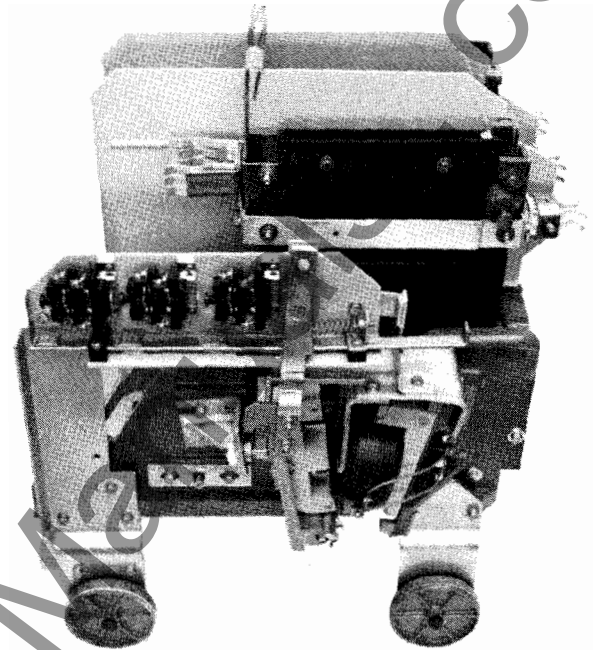

Fig. 5. IC2814E250 with interlock mounted
The IC2814E250, E251, E551 and E451 contactors are essentially versions of the IC2814E220 thru E241, E520 thru E541 and E421 contactors with 3 normally open (NO) and 3 normally closed (NC) electrical interlocks mounted on the magnet side of the contactor as shown in Fig. 5.
A latch as shown in Fig. 5 A can be furnished with all contactors so that they can be mechanically held closed. Latches are available to allow the contactor to be closed and opened both electrically and manually, or combinations of these functions.